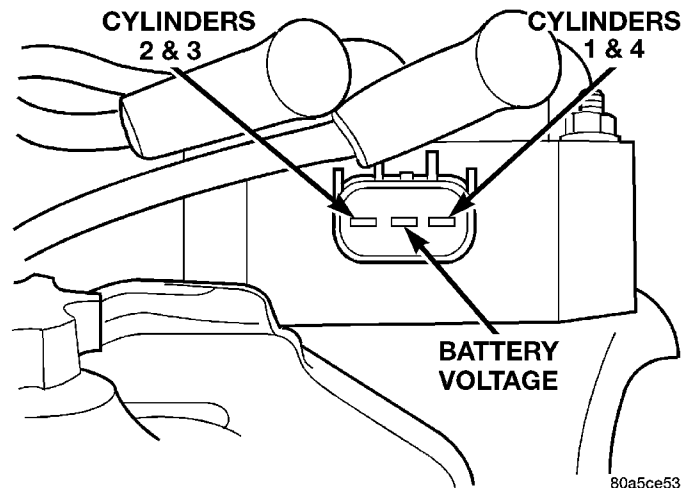

Fig. 18 Terminal Identification
(1) Remove the ignition cables and measure the resistance of the cables. Resistance must be between ranges shown in chart in specification section in this group. Replace any cable not within tolerance.
(2) Disconnect the electrical connector from the coil pack.
(3) Measure the primary resistance of each coil. At the coil, connect an ohmmeter between the B+ pin and the pin corresponding to the cylinders in question (Fig. 18). Resistance on the primary side of each coil should be 0.45 - 0.65 ohm. Replace the coil if resistance is not within tolerance.